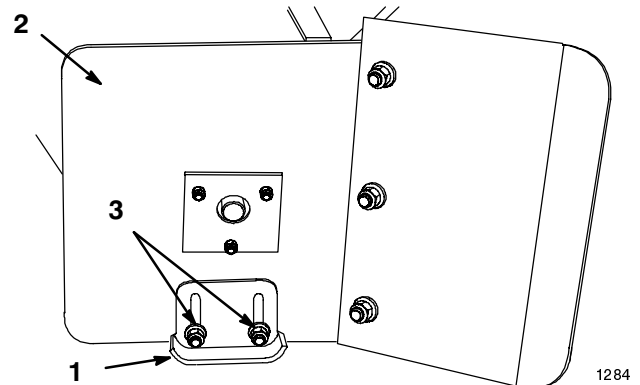

Figure 27
3. Loosen nuts securing skids to the housing until the skids slide up and down easily (Fig. 27).
4. Raise or lower skids equally on both sides, to obtain level scraping action, and tighten nuts (Fig. 27).